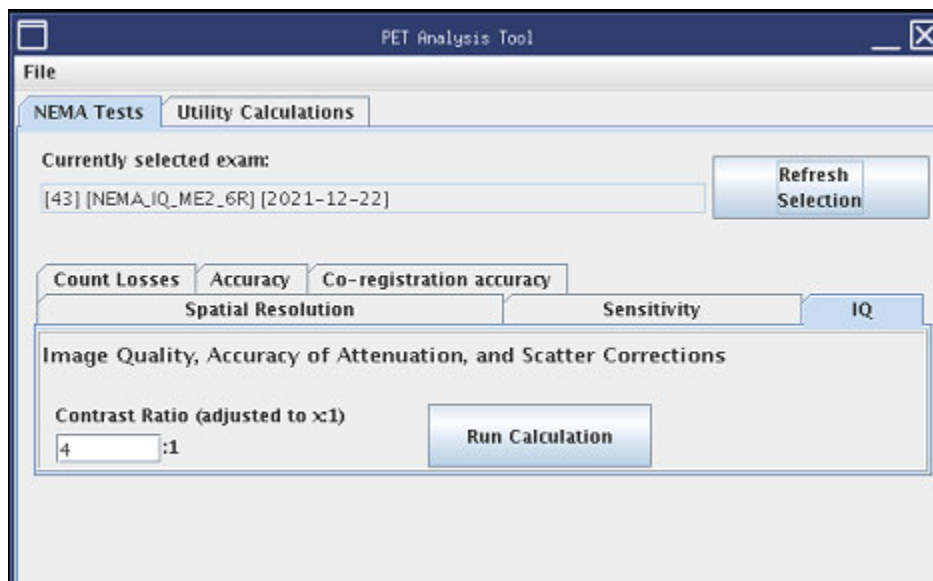

Figure 4.9: PET Analysis Tool - IQ Tab Selected
- If you are using a concentration other than 4:1, enter that value into the Contrast Ratio field in Figure 4.9, below.
11. Refer to Figure 4.9. Click RUN CALCULATION.